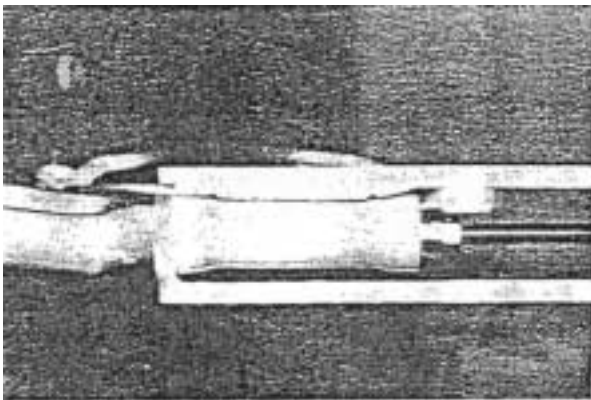

Figure 3: The headset removal tool in place for the removal of the fork.
Put a thin coat of RC 680 Loctite on all remaining contact areas (i.e. outside non-drive side bearing, inside and outside of drive side bearing, inside edge of the bottom bracket shell, and drive side of the spindle where bearing will seat). From the non-drive side, insert the spindle through the bottom bracket shell. Place the other bearing onto the spindle on the drive side. Install the main screw into the spindle until snug (see Fig. 3). While holding the main screw stationary, rotate the driver nut until both spacers meet the frame. Now, remove the tool.
- A) 3. Place the cage assembly around the head tube so that the fork pusher faces the top of the fork and the lower edge of the head tube is seated in the lower part of the cage assembly. Tighten the threaded rod until the fork pusher seats into the top fork. Check to see that both the fork pusher and bottom of the cage have seated properly (see Fig. 3).